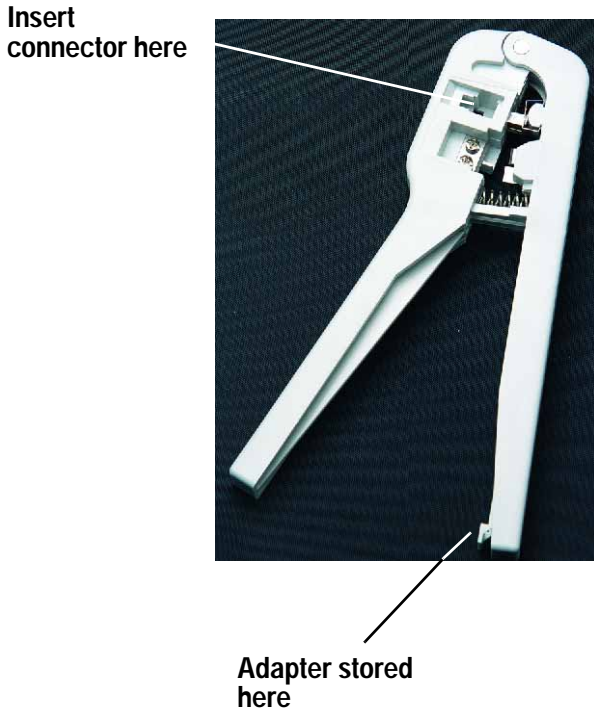

Figure 5-3: Wire Crimper
7. Refer to Figure 5-3 on page 15. Take the adapter from its storage place in the handle and insert it into the anvil: